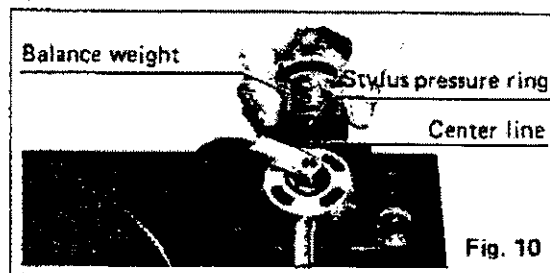

Fig. 10
- ⑧ After adjusting the horizontal balance, turn the balance weight clockwise in the direction of the arrow and align the correct stylus pressure. (Follow the cartridge manufacturer's recommendation.) (See Fig. 10).